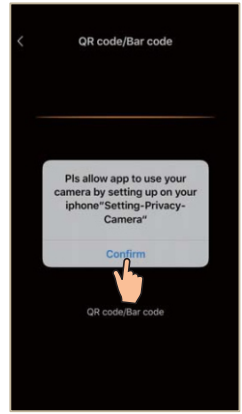

Fig.15 Scanning interface
5. Click "OK" (Fig.15) to allow the App to use the camera for scanning the **Barcode** on the heat pump unit (Fig.16)